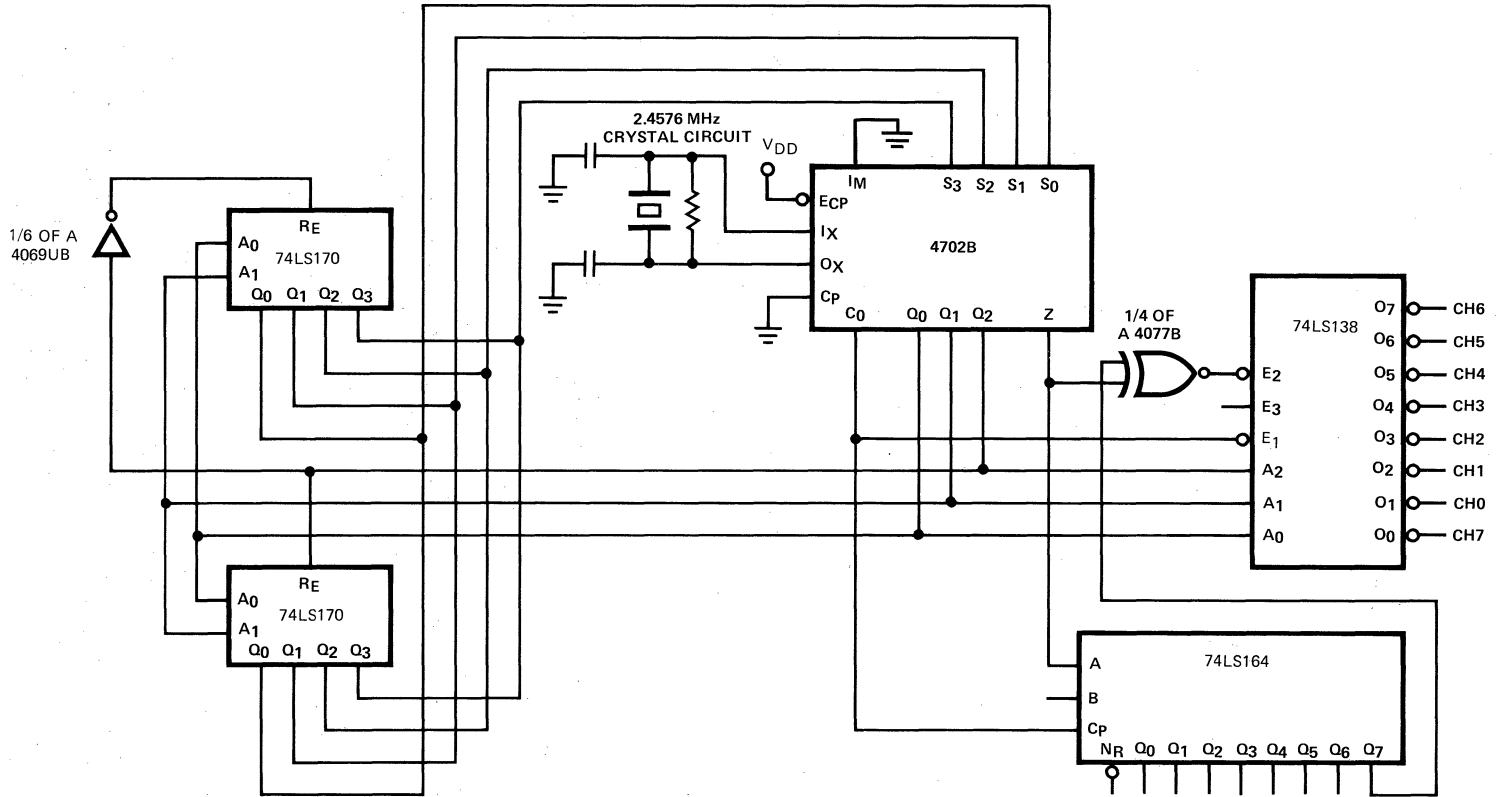

Fig. 5. A Fully Programmable 32 Times Frequency Bit Rate Generator System
Figure 5 illustrates a fully programmable 8-channel system. Two 9LS170 devices are used to store the channel frequency selection information. These devices can be loaded with information on a per channel basis. For clarity, circuitry for writing into these devices is not drawn. The least significant SCAN counter outputs (Q_0 and Q_1) of the 4702B are used as the read address inputs of the 9LS170s. The most significant bit (Q_2) is used to control the read enable (RE) inputs of the 9LS170s. The $Q_0 - Q_2$ outputs of the 4702B are also the inputs to a 9LS138 decoder. The clock output (CO) of the 4702B is used to control one enable input (\bar{E}_1) of the 9LS138. The CO output is also the clock input (CP) for the 9LS164 shift register. The Z output of the 4702B is the data input (A) to the 9LS164. The Z output of the 4702B is also tied into an exclusive NOR gate (4077B) as one input. The second input to the exclusive NOR gate is the Q_7 output of the 9LS164. The output of the exclusive NOR gate controls the second enable input (\bar{E}_2) of the 9LS138. The outputs ($\bar{O}_0 - \bar{O}_7$) of the 9LS138 are the desired output clock signals.
To understand the operation of this circuit, consider the LOW-to-HIGH transition of the CO output of the 4702B when the SCAN counter outputs change from "7" (HHH) to "0" (LLL). From this transition to the next LOW-to-HIGH transition of the CO , the Z output of the 4702B reflects the state of the channel 7 counter output. The $Q_0 - Q_2$ outputs of the 4702B are LOW and hence information for channel 0 will be available on the 9LS170 outputs. The $S_0 - S_3$ inputs of the 4702B are connected to the 9LS170 outputs. On the LOW-to-HIGH transition of the CO output channel 0 counter will be clocked to the Z output. This transition also clocks the 9LS164. The SCAN counter also increments on this transition and will point to channel 1. As the clocking continues, 9LS170 locations will be read out sequentially and information will be shifted into the 9LS164. After eight clock transitions the previous channel 7 output will be at the Q_7 output of the 9LS164, and the current channel 7 output will be on the Z output of the 4702B. The output of the exclusive NOR gate will be LOW if the inputs differ; i.e. whenever the channel 7 output is to make a transition the output of the exclusive NOR gate will be LOW. The CO output is connected to the \bar{E}_2 input of the 93LS138 and during the negative half cycle of the clock the \bar{O}_0 output of the 9LS138 will be LOW. The 4702B internal counters generate 16 times the selected bit rate. The exclusive NOR gate is generating a signal whenever the selected counter is making a transition. This scheme will result in 32 times the selected bit rate. As the clocking continues each channel is serially appearing on the Q_7 output of the 9LS164 and will be compared with the corresponding current channel output. The 9LS138 will then represent the appropriate frequency at its output as shown in *Figure 5*.